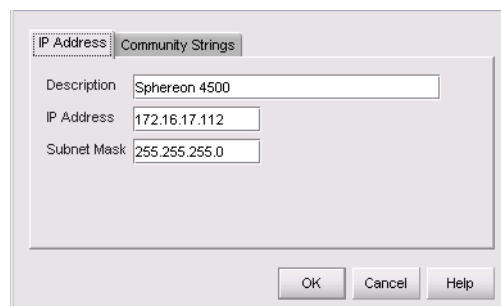

Figure 4-69 Domain Information Dialog Box
- d. Select (highlight) the entry representing the reset director in the *Available Addresses* window and click *Change*. The *Domain Information* dialog box displays (Figure 4-69).